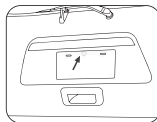

FIG 3
2. With the licence plate off, check if there is a pre-existing hole through which the cables from the camera can be passed through to the boot of the vehicle **(FIG 3)**. If there are no pre-existing holes, carefully drill a hole of sufficient diameter to allow the cables to be passed into the interior of the vehicle (through a rubber grommet) and seal the hole with silicone to avoid water leakage.